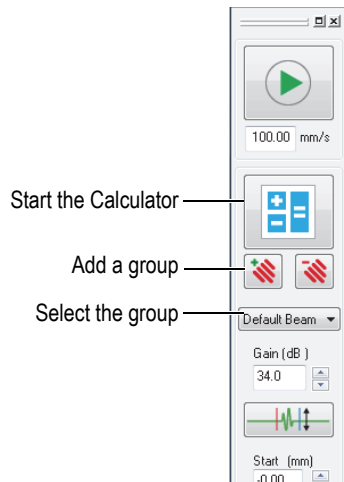

Figure 4-3 Adding or selecting a group
1. On the Dashboard, click  to add a group (Figure 4-3 on page 100).
3. On the Dashboard (Figure 4-3 on page 100), proceed as follows: